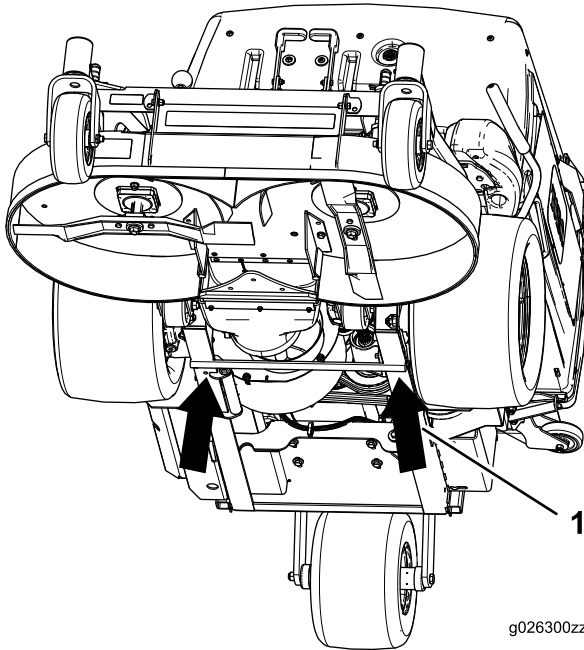

Figure 3
8. Raise the front of the machine and support it with jack stands or an equivalent support (Figure 3).